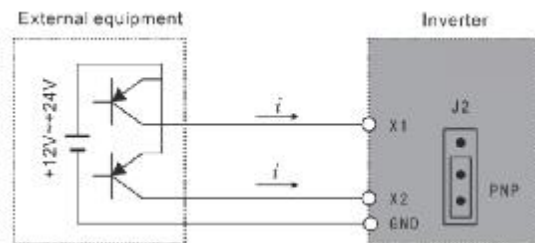

Figure 3-2 PNP Type Wiring Mode
(2) When PNP type wiring mode is adopted for external equipment, source-type logic is induced, and the current flows into from input terminal (sinking current) as shown in Figure 3-2, at the same time parameter P067=1 is required.